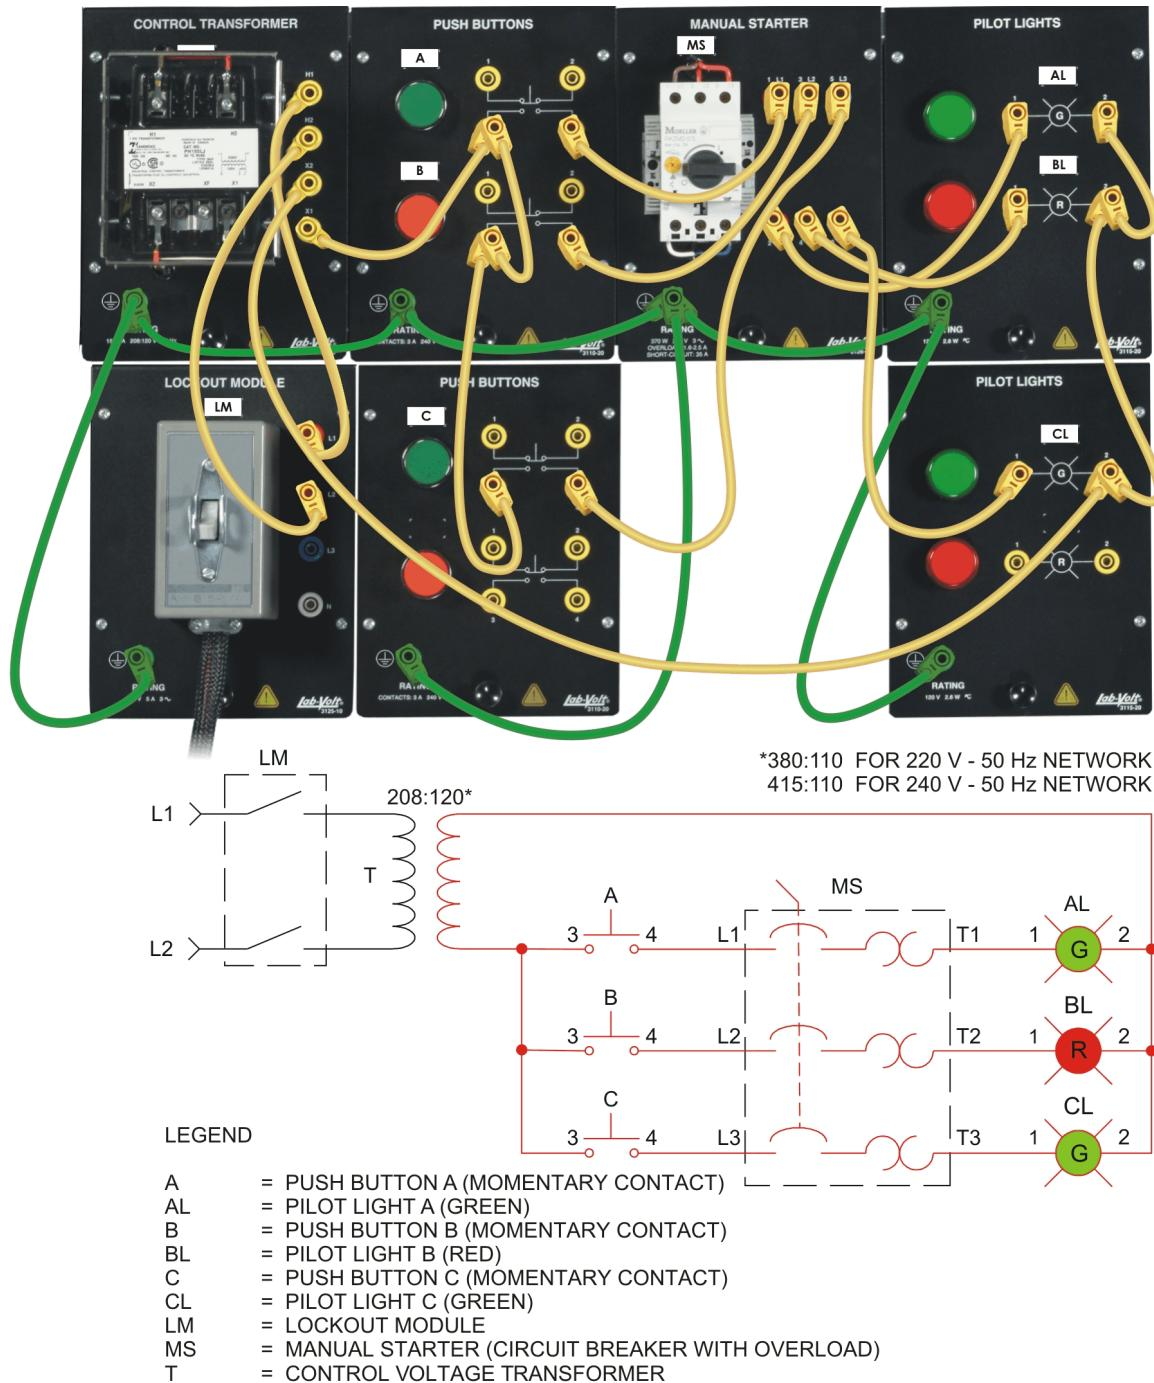

Figure 1-11. Basic manual starter circuit.
- 6. Connect the circuit shown in Figure 1-11.